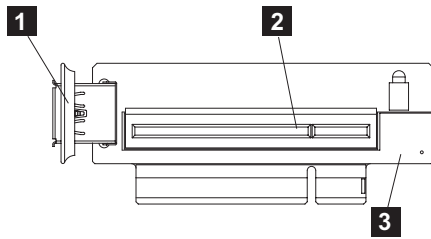

Figure 202. USB riser-card assembly (SAN Volume Controller 2145-CF8 shown)
7. Remove the USB service-controller cable from the USB connection (**1** in Figure 202) on the disk-controller and USB riser-card assembly (**3**), as described in “Removing and replacing the SAN Volume Controller 2145-CG8 or 2145-CF8 service controller cable” on page 91.